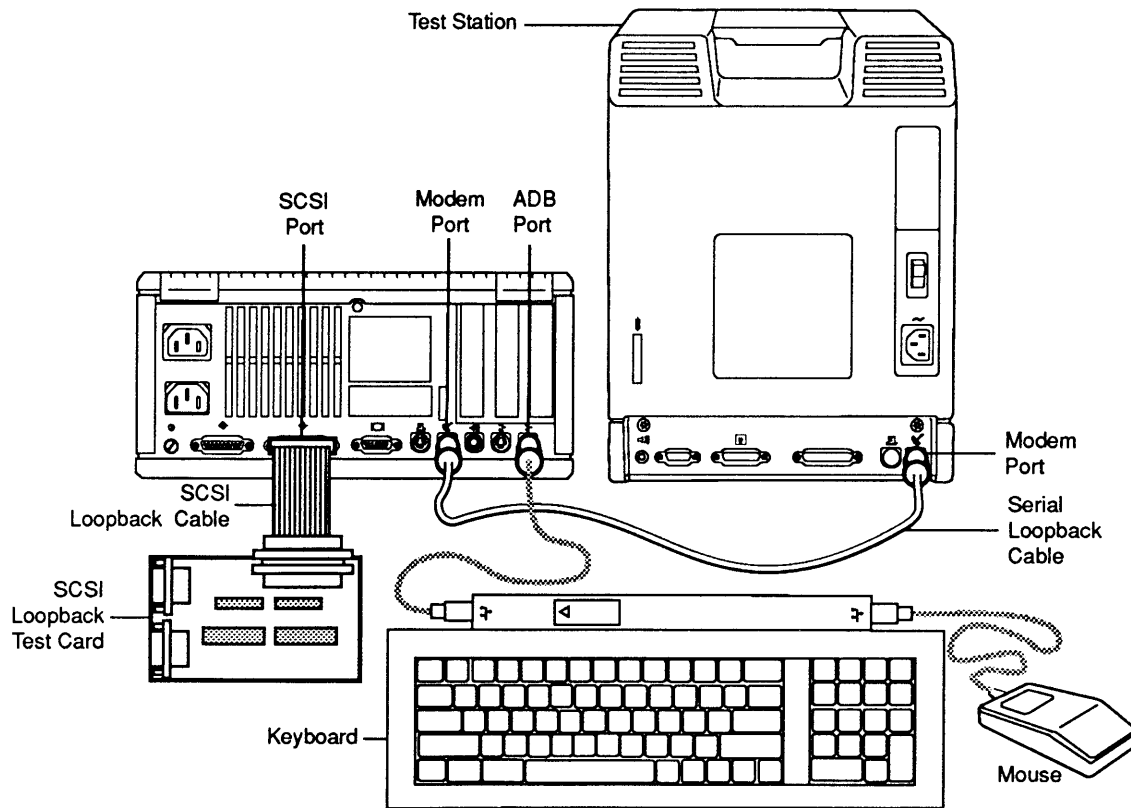

Figure 3-6 Modem and ADB Connections
5. Connect one end of the serial port cable to the modem port on the UUT, and connect the other end to the modem port on the test station (**Figure 3-6**).
6. Connect a known-good keyboard to the ADB port on the UUT, and connect a known-good mouse to the other ADB port on the UUT (**Figure 3-6**).